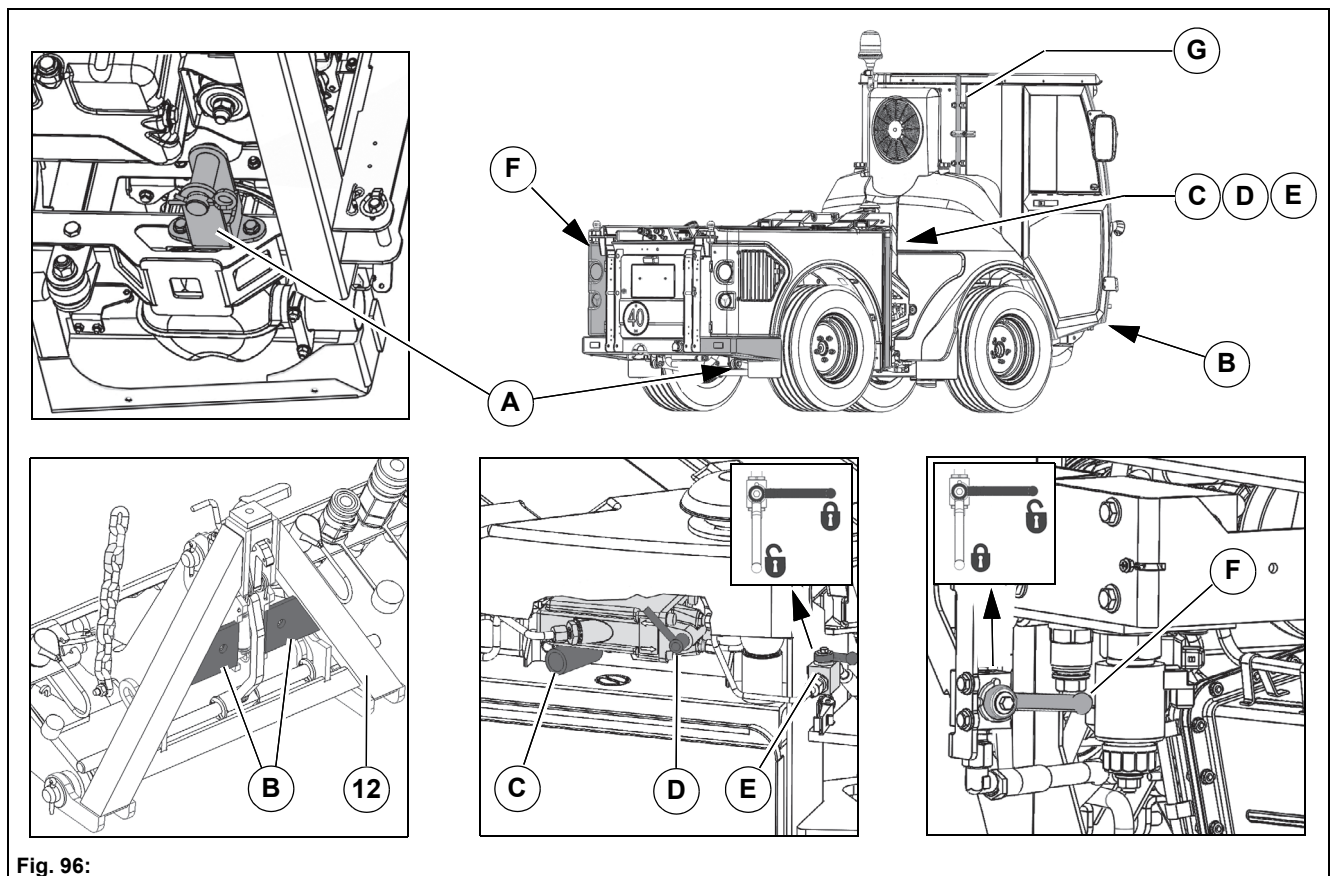

Fig. 96:
1. The towing eye **Fig. 96-A** is located in the rear wagon on the right and must be mounted on the holder **Fig. 96-B** of the front tool carrier **Fig. 96-12**.
2. Turn the lever of the hand pump **Fig. 96-D** into the upper position.
3. Close the ball cock **Fig. 96-E** to the right of the hand pump (see symbol).
4. Open the ball cock **Fig. 96-F** of the bypass valve (see symbol).
5. Insert the auxiliary tool **Fig. 96-G** in the hand pump **Fig. 96-C** and pump (approx. 25 times) until the parking brake is unlocked.
After completing the towing process, open the ball cock **Fig. 96-E** again and close the ball cock **Fig. 96-F** of the bypass valve again. Set the lever of the hand pump **Fig. 96-C** to the lower position again!